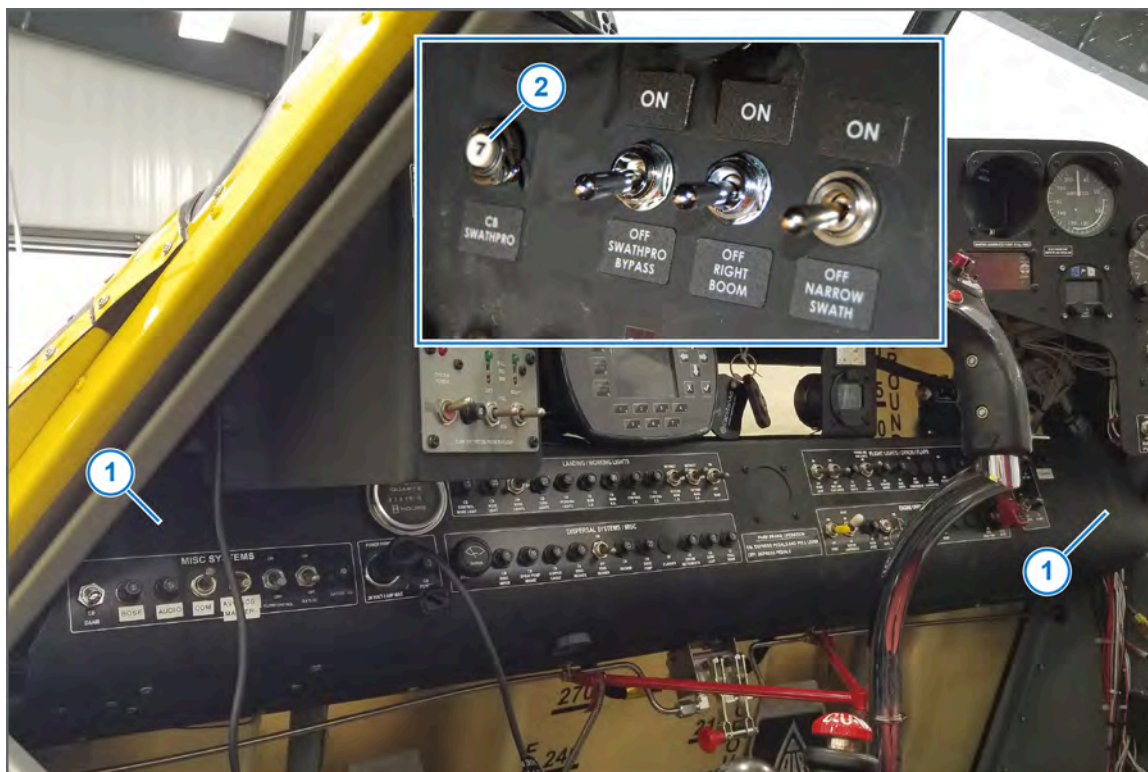

Figure 27: Circuit Breaker Location Options
1. Make or find an available hole in the lower instrument panel (Figure 27, Item 1) in the cockpit for the 7A circuit breaker (Figure 27, Item 2).
See Figure 27
8. Install the ring terminal to one of the terminals on the back of the 7A circuit breaker (Figure 27, Item 2).